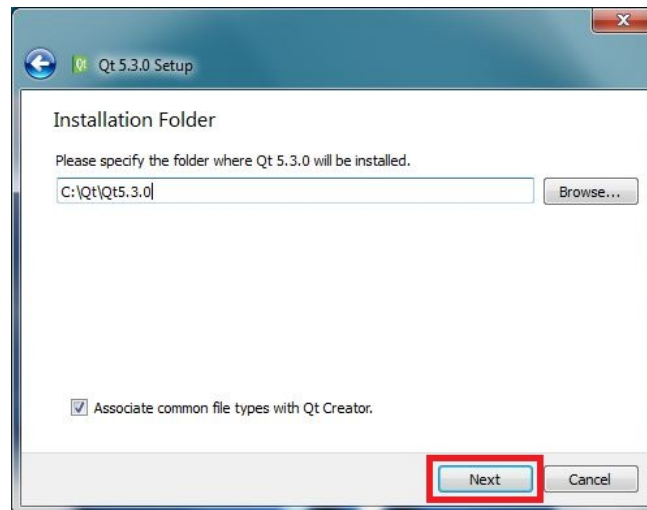

Figure 4-2. Qt Creator IDE Installation Path Selection
4. Select an installation path for the Qt IDE. Click the **Next** button as seen in Figure 4-2.